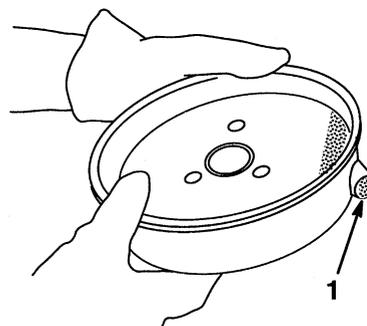

Figure 33
10. Clean carbon deposits from muffler and tube with wire brush and wood dowel (Fig. 33). Wipe muffler clean with paper towel or rag.